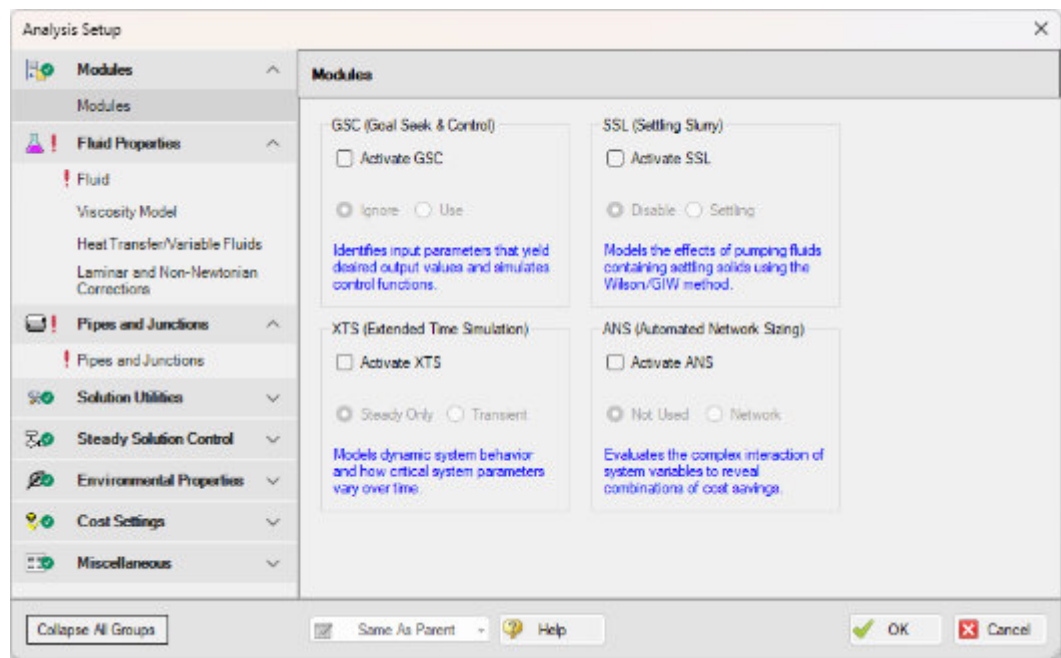

Figure 2.10 On the Modules panel, you can enable or disable any module
- **Click Analysis Setup on the Common Toolbar.** This opens the Analysis Setup window (see Figure 2.10). The Analysis Setup window contains various *groups* depending on which Add-on Modules you may be using. Each group has one or more *items*. A fully defined group has every item within it defined with all required inputs. Complete every group to run the Solver. A group or item that needs more information will have a red exclamation point to the left of the
Under the Modules group, click on the Modules item to open the Modules panel, shown in Figure 2.10. Here you can enable and disable Add-on Modules if they are available on the license. These Add-on Modules include Goal Seek & Control (GSC), Settling Slurry (SSL), Extended Time Simulation (XTS), and Automated Network Sizing (ANS). By default, the model will have all modules disabled. Make no changes to this panel for this example.